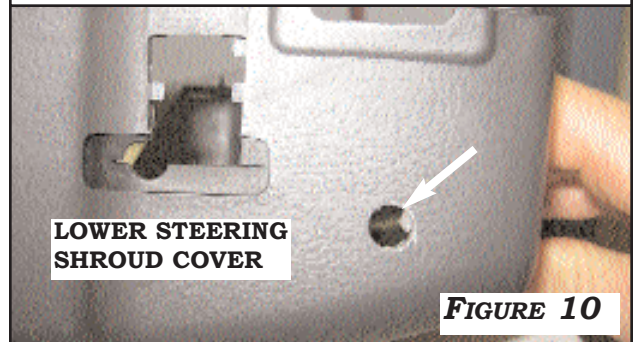

FIGURE 10
1. MARK HOLE AS SHOWN IN **FIGURE 10**. USE THE **LEVER WEDGE** AS AN ANGLE TEMPLATE TO DRILL **9.5MM OR 3/8"** HOLE IN LOWER SHROUD. POSITION THE LOCKWASHERS AS SHOWN IN **FIGURE 11**. START NUT AND POSITION THE LETTERING FOR DRIVER'S BEST VIEW. FULLY SECURE NUT AT **2.5-2.8NM. DO NOT OVERTIGHTEN.**